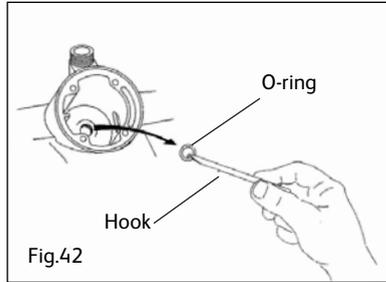

Fig.42
- Carefully remove the existing O-ring using a suitable tool i.e. crochet hook or similar, take care to avoid any damage to the seating (Fig 42).